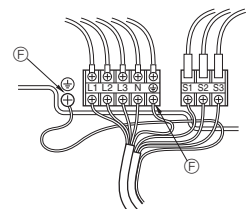

Fig. 6-2
6.1. Outdoor unit (Fig. 6-1, Fig. 6-2)
- 2 Wire the cables referring to the Fig. 6-1 and the Fig. 6-2.